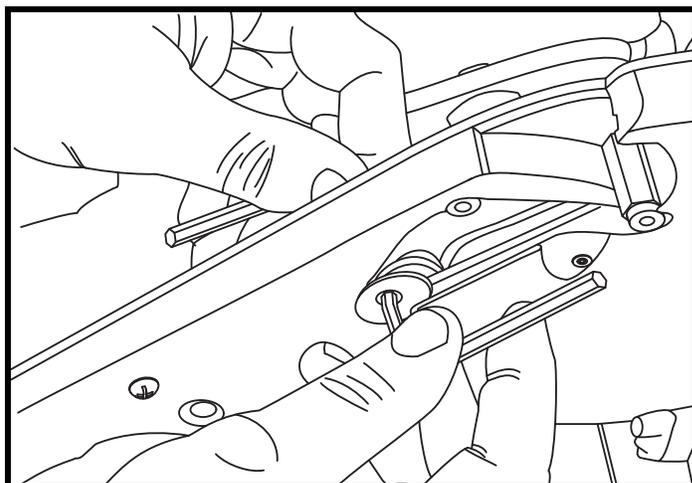

Figure 38. Changing Extension Force Spring (Kids FAST)
8. Check for smooth resistance. If spring binds, it may be necessary to loosen bolt in 0.25-in. (0.64-cm) turn increments until action is smooth. **See figure 38.**